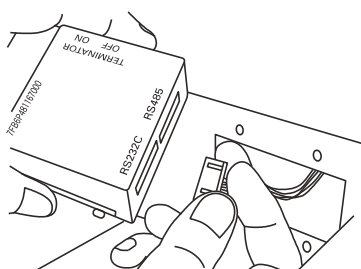
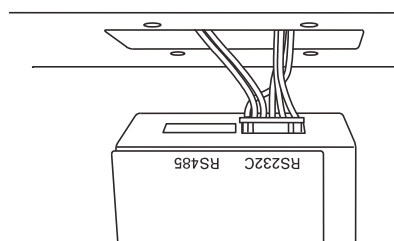

Fig. 4
Fig. 5
4. Pass a recorder sensor through the inside of the freezer in the hole (It is blocked with the rubber stopper and the insulation in this hole. Remove it first.) for the recorder sensor. (Fig. 4)
6. Bind the extra lead wire of the sensor with a nylon clip on the back of the temperature recorder. (Fig. 4)
7. As shown in the Fig. 5, insert the temperature recorder by using the recorder fixing(MDF-S30150) and temperature recorder fitting to the mounting space and fix it to the front side of the front panel. Fix with four screws.
4. Connect to the connector side (the back side of the interface board) of a communication cable (RS-232C or RS-485) to use for the interface board (MTR-480). (Fig. 5 is a connection example to use RS-232C.) (Fig. 4 and 5)